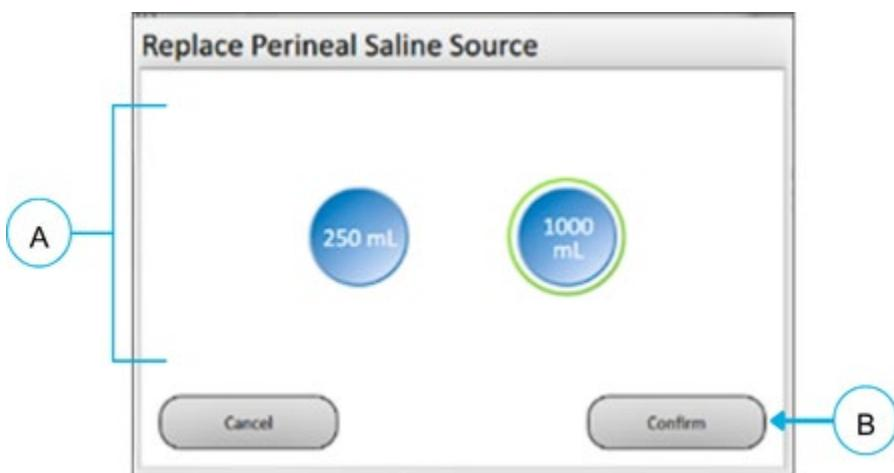

Figure 14-8: Replace Perineal Saline Source Window
3. On the Generator screen (**Figure 14-8**):
- On the Replace Perineal Saline Source window, select the volume associated with the size of the new Saline bag (A)
- Select **[Confirm]** (B)